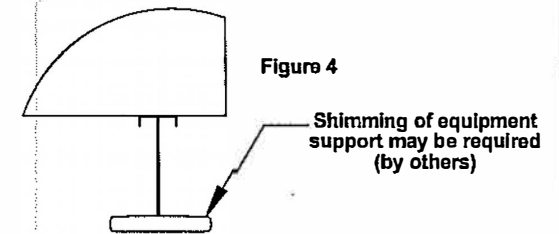

Figure 4
7. If an equipment support is provided with the Cambridgeport curb adapter, it must be placed under the side of the adapter and roof deck. The equipment support must be shimmed to fit between the bottom of the curb adapter and roof deck. See Figure 4.